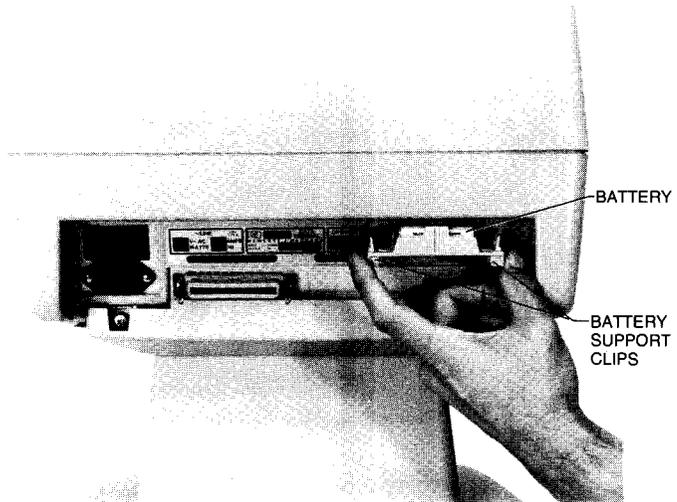

Figure 7-11. Battery Removal
3. Grasp and squeeze battery support clips and pull it downward for removal. (See figure 7-11.)